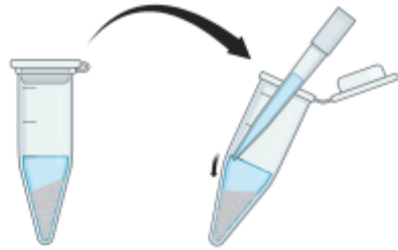

Figure 9. Tip the tube and aspirate supernatant along the side wall to avoid accidental removal of PIPs.
10. While the PIP pellet is still at an angle, quickly use a P200 pipette to remove the clear supernatant down to the 0.1 mL mark on the tube (Refer to Figure 9 for sample handling recommendations).
Workflow Tip: Perform the supernatant removal in two steps. First remove the $> 100 \mu\text{L}$ volume by rotating the tube to aspirate along the side-wall away from the PIPs (Figure 9). Second, repeat step 10 and then remove the remaining supernatant in the same manner.